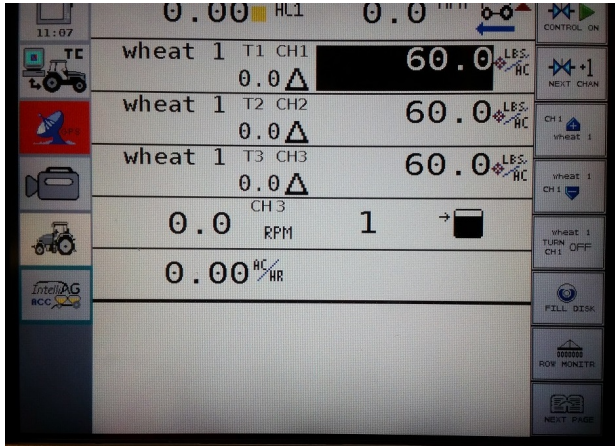

Figure 30
Step 1. From Main Menu (Figure 30)